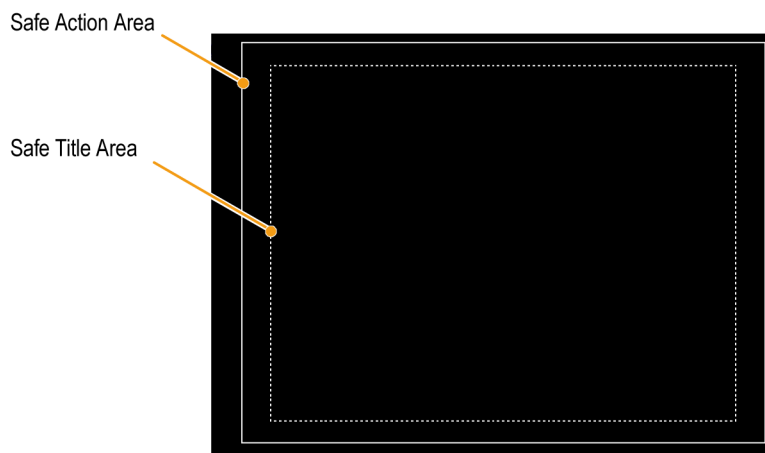

Figure 81: Safe Action and Safe Title areas
- The Safe Action Area shows the maximum image area within which all significant action should be contained; the Safe Title Area shows the maximum image area within which all significant titles should be contained. (See Figure 81.)